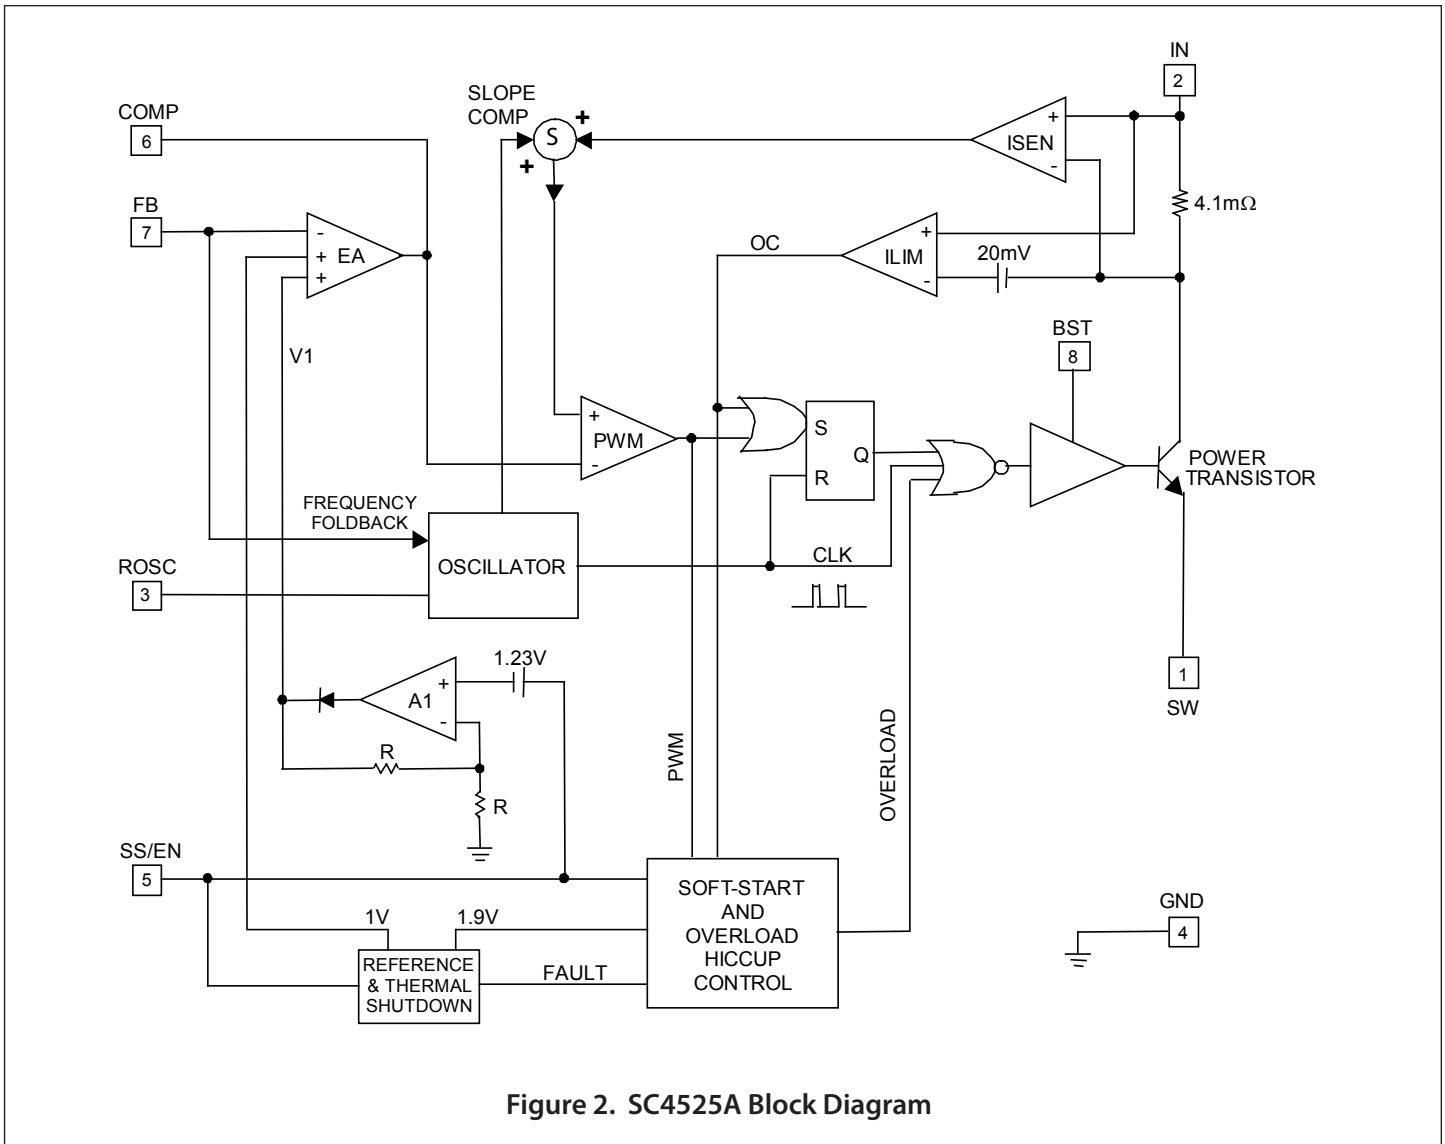

Figure 2. SC4525A Block Diagram
As shown in Figure 2, the switch collector current is sensed with an integrated 4.1mΩ sense resistor. The sensed current is summed with a slope-compensating ramp before it is compared with the transconductance error amplifier (EA) output. The PWM comparator trip point determines the switch turn-on pulse width. The current-limit comparator ILIM turns off the power switch when the sensed signal exceeds the 20mV current-limit threshold.
The error amplifier EA in Figure 2 has two non-inverting inputs. The non-inverting input with the lower voltage predominates. One of the non-inverting inputs is biased to a precision 1V reference and the other non-inverting input is tied to the output of the amplifier A_1 . Amplifier A_1 produces an output $V_1 = 2(V_{SS/EN} - 1.23V)$. V_1 is zero and COMP is forced low when $V_{SS/EN}$ is below 1.23V. During start up, the effective non-inverting input of EA stays at zero until the soft-start capacitor is charged above 1.23V. Once $V_{SS/EN}$ exceeds 1.23V, COMP is released. The regulator starts to switch when V_{COMP} rises above 0.4V. If the soft-start interval is made sufficiently long, then the FB voltage (hence the output voltage) will track V_1 during start up. $V_{SS/EN}$ must be at least 1.83V for the output to achieve regulation. Proper soft-start prevents output overshoot. Current drawn from the input supply is also well controlled.
As the load draws more current from the regulator, the current-limit comparator ILIM (Figure 2) will eventually limit the switch current on a cycle-by-cycle basis. The over-current signal OC goes high, setting the latch B₃. The soft-start capacitor is discharged with (I_D - I_C) (Figure 3). If the inductor current falls below the current limit and the PWM comparator instead turns off the switch, then latch B₃ will be reset and I_C will recharge the soft-start capacitor. If over-current condition persists or OC becomes asserted more often than PWM over a period of time, then the soft-start capacitor will be discharged below 1.9V. At this juncture, comparator B₄ sets the overload latch B₂. The soft-start capacitor will be continuously discharged with (I_D - I_C). The COMP pin is immediately pulled to ground. The switching regulator is shut off until the soft-start capacitor is discharged below 1.0V. At this moment, the overload latch is reset. The soft-start capacitor is recharged and the converter again undergoes soft-start. The regulator will go through soft-start, overload shutdown and restart until it is no longer overloaded.
The PWM latch in Figure 2 is reset every cycle by the clock. The clock also turns off the power transistor to refresh the bootstrap capacitor. This minimum off time limits the attainable duty cycle of the regulator at a given switching frequency. The measured minimum off time is 100ns typically. If the required duty cycle is higher than the attainable maximum, then the output voltage will not be able to reach its set value in continuous-conduction mode.